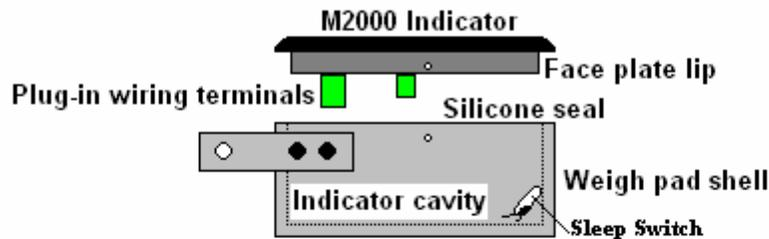

Fig. 2
-Insert the blade screw driver between the corner of the “Face plate” (Fig. 2) and the weigh pad shell. Note that the “Face plate” has a 1/2” lip that sets down into the cavity. Use the utility knife to cut the silicone seal as the face plate is pried up.
-Follow the same procedure, as previously described, for removing the indicator from the “Indicator Cavity” (Fig. 2).